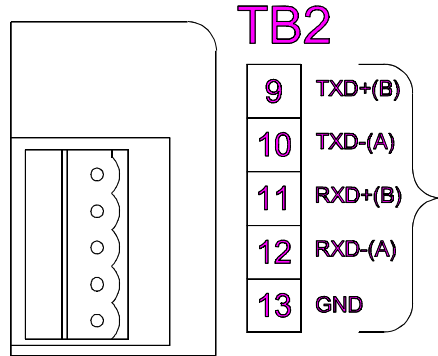
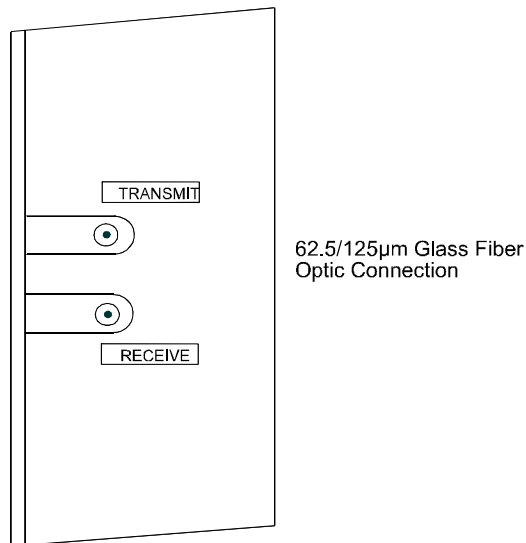

Figure 14. Four Wire RS-485 Connection
Figure 15. Optional Fiber Optic Connection
The transformer Monitor comes Equipped with digital communication capabilities. A four wire RS-485 connection is located on the back of the unit see *Figures 14, 14a*. If the operator is using a two wire RS-485 connection with the 509, short TXD+(B) with RXD+(B) and TXD-(A) with RXD-(A). Now connect the two wire RS-485 as an A/B system. There is also a fiber optic connection option. See *Figure 15, 15a* for the connection to this option. This option has been tested using both the Black Box fiber optic modem line driver #ME540A-ST and the Dymec line/repeater #5846-F-ST. The RS-485 connection may be